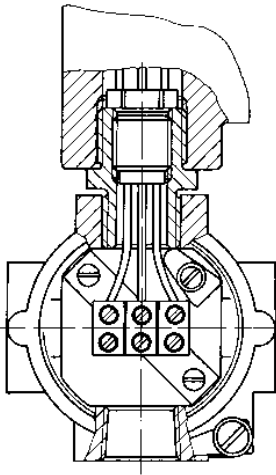

Fig. 6.4 · For indirect cable entry with junction box Ex e
**Type 6115-14** · i/p converter as Type 6115-12, but with junction box (Fig. 6.4) in type of protection "increased safety e".